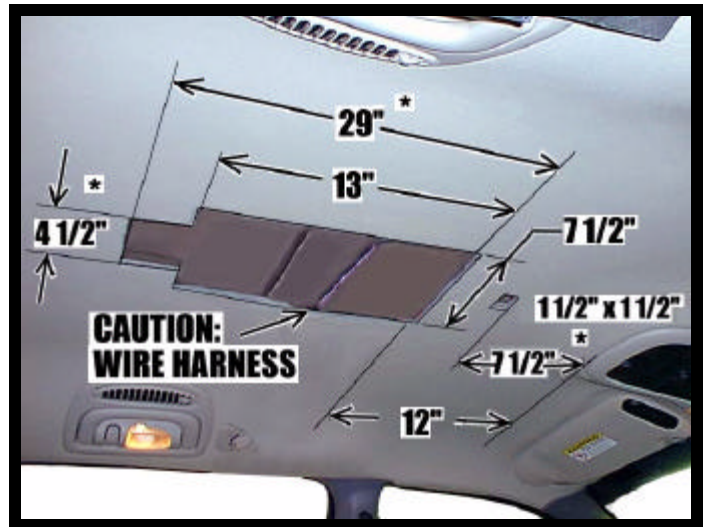

FIGURE 2
3. Using O.E. console as a reference, carefully measure and trim headliner as shown. **Caution: Before cutting headliner material, check for wiring or other componentry above headliner. Cut only where indicated. DO NOT OVERCUT HEADLINER.** Make sure that the 7 1/2" cut is centered left to right in vehicle. See Figure 2.
4. If speaker upgrade kit was purchased, trim these (\*) locations. See Figure 2.